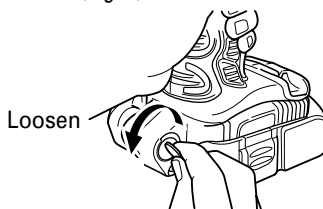

Fig. 6
- (2) Switching the hook position
- (a) Securely hold the main unit and remove the screw using a slotted head screwdriver or a coin (Fig. 6).
- (c) Install the hook and spring on the other side and securely fasten with screw. (Fig. 6)